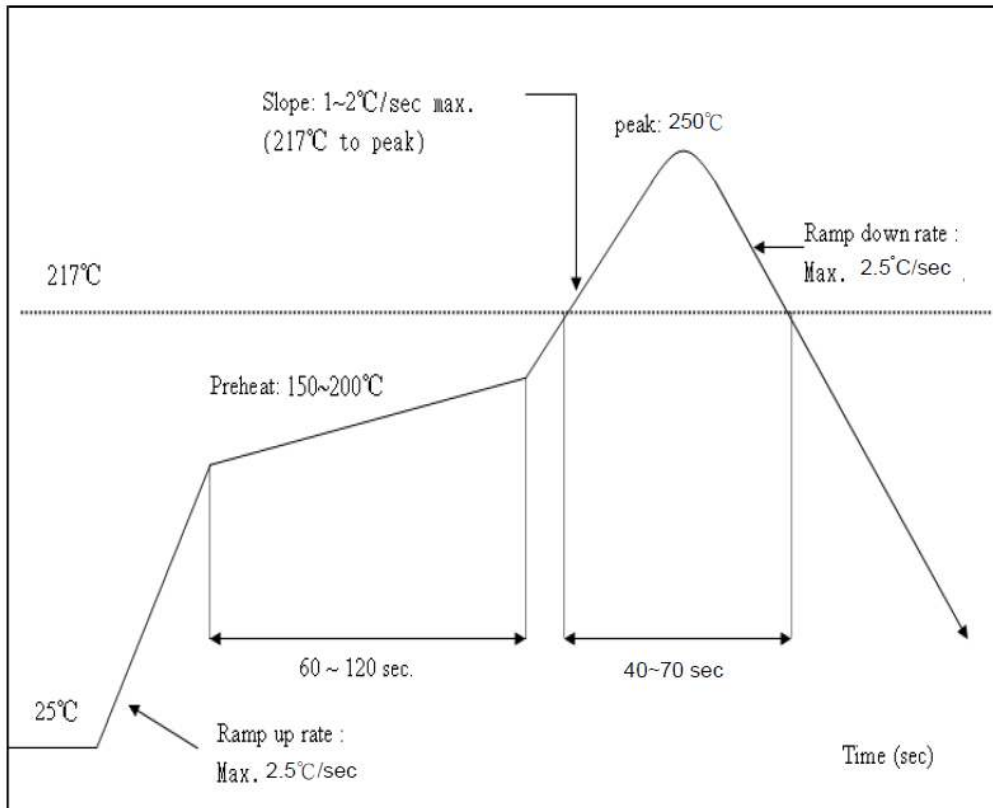

Figure 10 Temperature Curve of Secondary Reflow
- SMT patch should on the basis of reflow profile diagram, maximum temperature 245°C, reflow profile diagram is shown in figure 10;